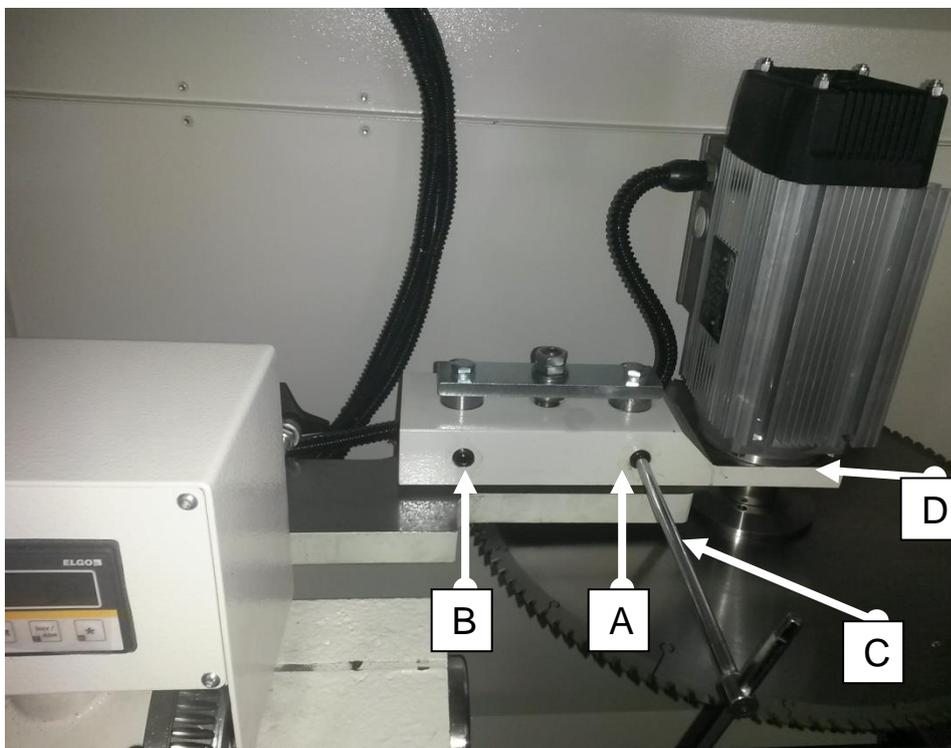

FIG.9A
- Loosen screws A and B (Fig.9A) with service spanner C (Fig.9A) locking support D (Fig.9A) motor.
- Lock screws A and B (Fig.9A) with spanner C (Fig.9A).